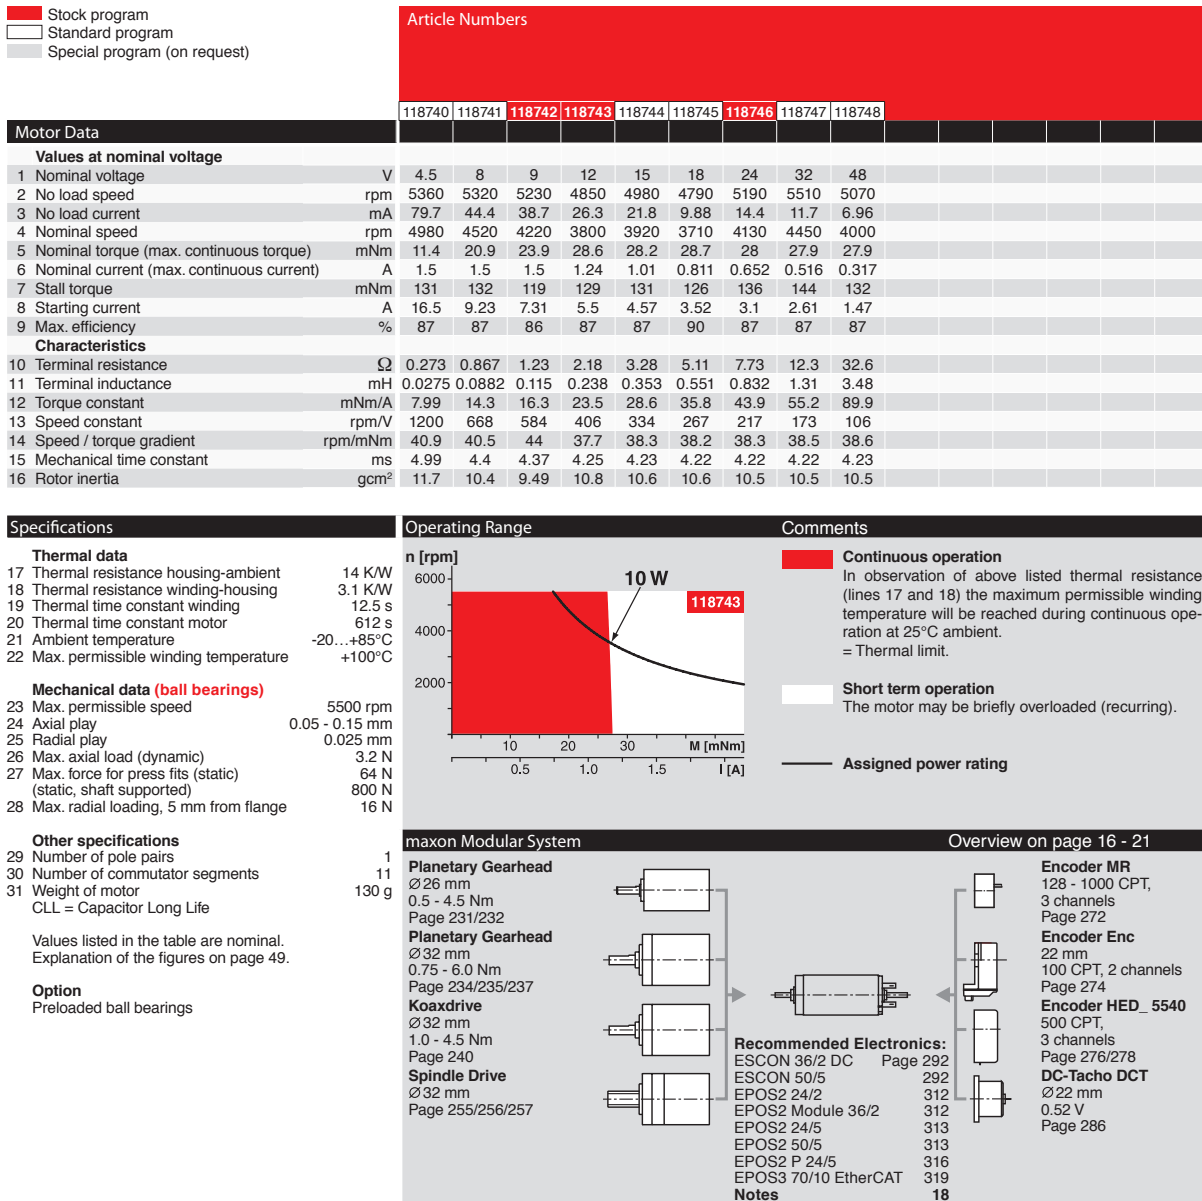

Figure 26.15: The data sheet for the Maxon RE 25 motor. The columns correspond to different windings for different nominal voltages.
2. Figure 26.15 gives the data sheet for the 10 W Maxon RE 25 motor. The columns correspond to different windings.
- (i) (Optional) Motor manufacturers may specify slightly different continuous and intermittent operating regions than the ones described in this chapter. For example, the limit of the continuous operating region is not quite vertical in the speed-torque plot of Figure 26.15. Come up with a possible explanation, perhaps using online resources.